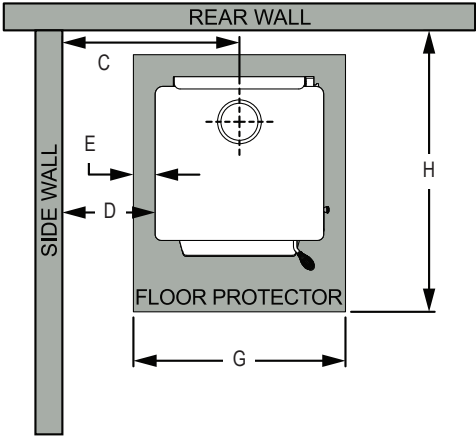

Figure 9.1
- The minimum Floor Protector sizes are specified in the clearance chart, see **Figures 9.1 and 9.2 on page 9**.
1. If a separate floor protector is being used position now. Place the firebox on the floor protector to suit the minimum installation clearances (**Figures 9.1 and 9.2 on page 9**).